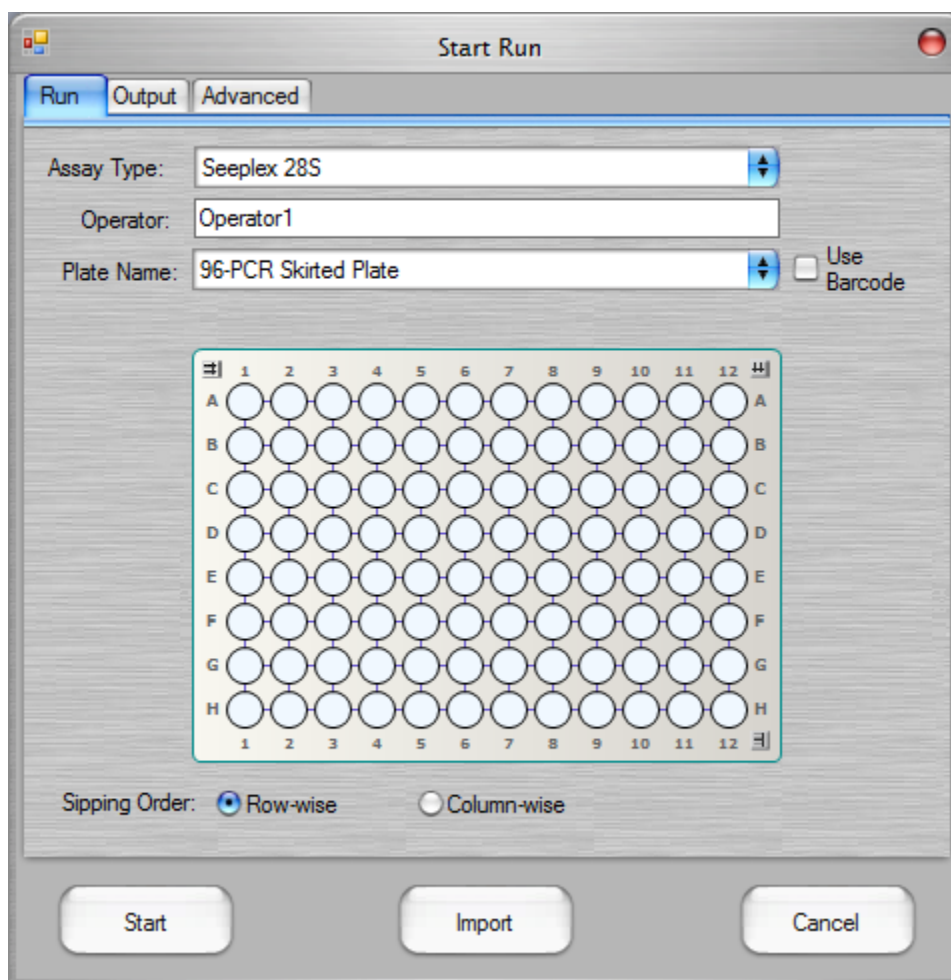

Figure 7. Run tab of Start Run window.
4. The **Start Run** dialog box will pop up with tabs listed as **Run**, **Output** and **Advanced**. See **Figure 7**.